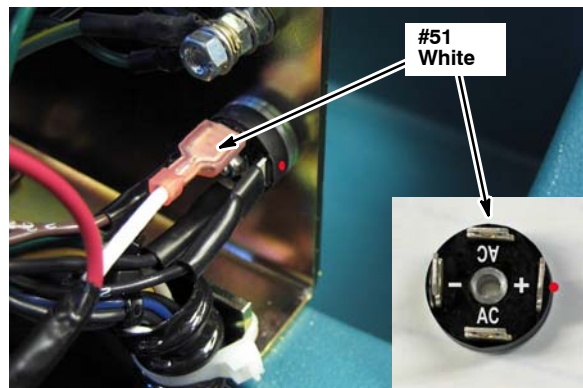

Fig. 10
11. Connect wire #51 white (from new harness) to the rectifier, where wire #11/25 was removed earlier (Fig. 10).